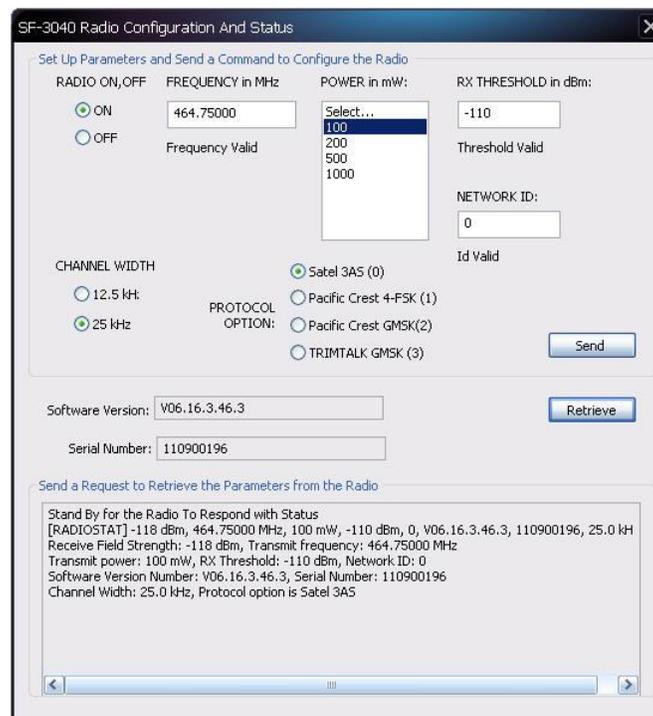

Figure 131: SF-3040 Radio Configuration and Status
1. On the *Receiver Setup* menu of StarUtil 3000, click *Configure SF-3040 Radio* (see Figure 130) to display the *SF-3040 Radio Configuration and Status* dialog box (see Figure 131).
2. Refer to Figure 131 for the steps below: